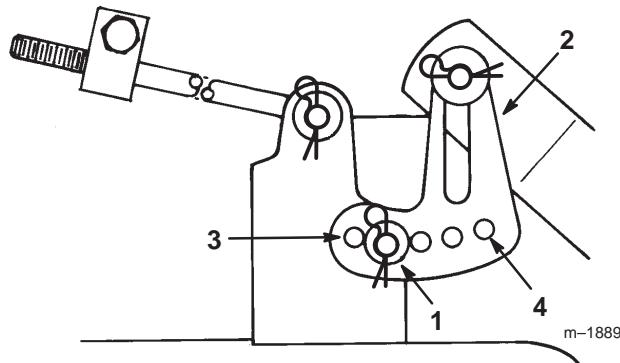

Figure 48
4. Remove the hairpin cotter and washer from the leveling bracket (Fig. 48). To level the blade(s), reposition the leveling bracket in a different hole and install the washer and hairpin cotter (Fig. 48). A front hole lowers the blade height and a rear hole raises its height. Repeat this procedure on the opposite side of the mower.